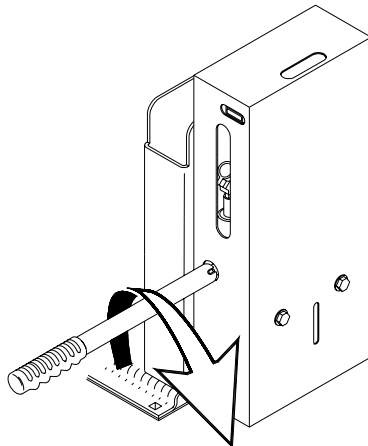

FIGURE 2-14: CLOSE RELEASE VALVE
- d. Refer to **Figure 2-14**. When platform reaches vehicle interior floor level turn valve clockwise to close; do not over-tighten valve. Do not lower platform below vehicle floor level. The rear edge of bridgeplate must rest flat on vehicle floor.
- b. Hold valve open until platform settles at ground level. Refer to **Figure 2-14**. Turn valve clockwise to close; do not over-tighten valve.
- a. Refer to **Figure 2-14**. Verify that pump release valve is closed; do not over-tighten valve.